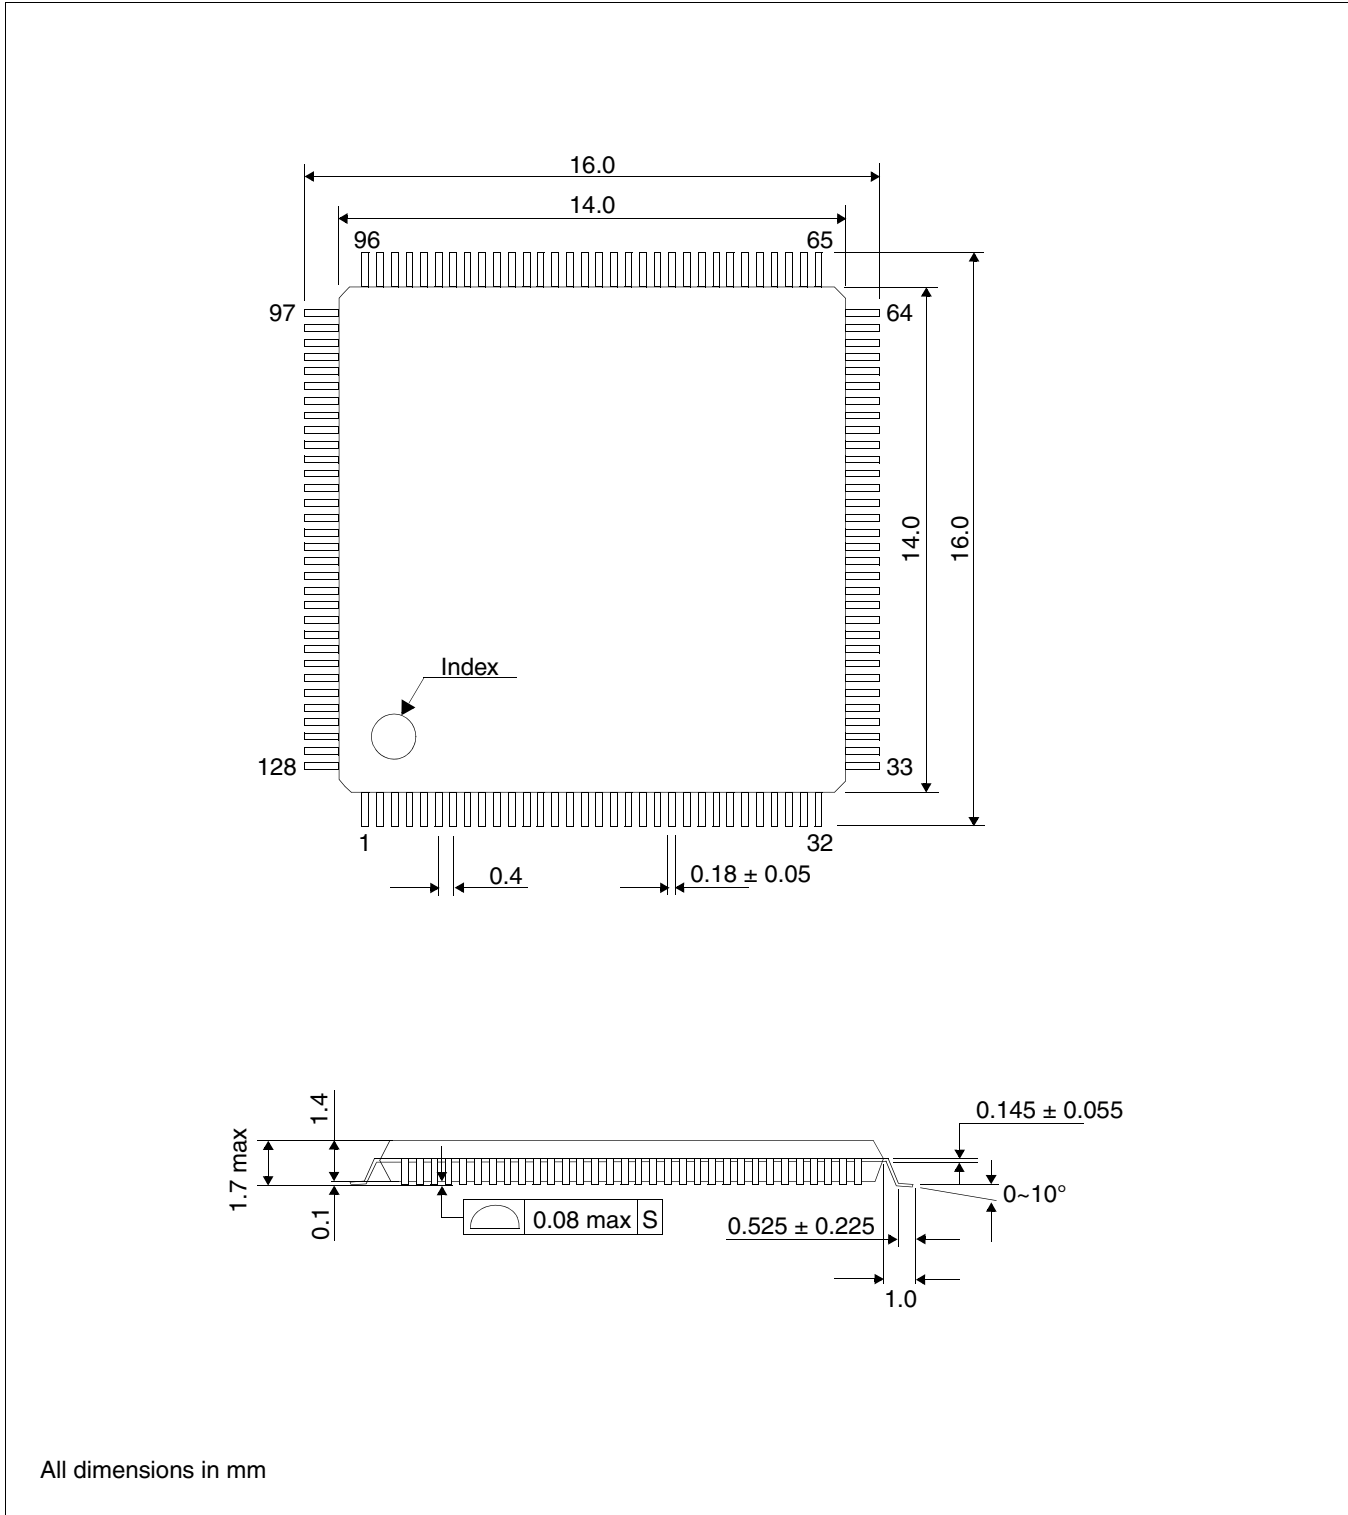

Figure 26-2: S1D13746 QFP15 128-pin Package
- section 26 Mechanical Data - correct typo in figure 26-2, change “E = 025” to “E = 0.25”